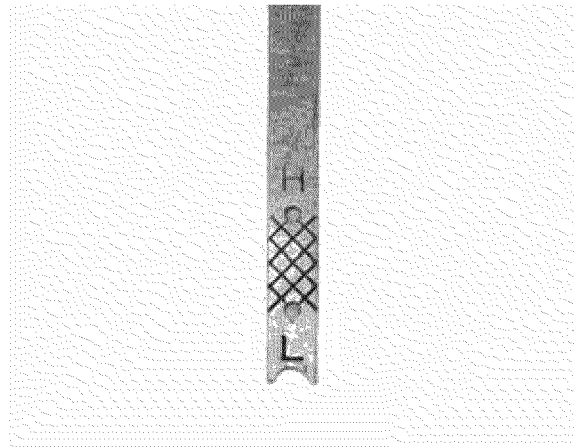

Figure 27 – Checking Oil Level
- Acceptable Oil Level – Oil is visible on the cross-hatches between the H and L lines on the oil fill plug/dipstick (see Figure 27).
- Low Oil – Oil is below the L line on the oil fill plug/dipstick (see Figure 27).